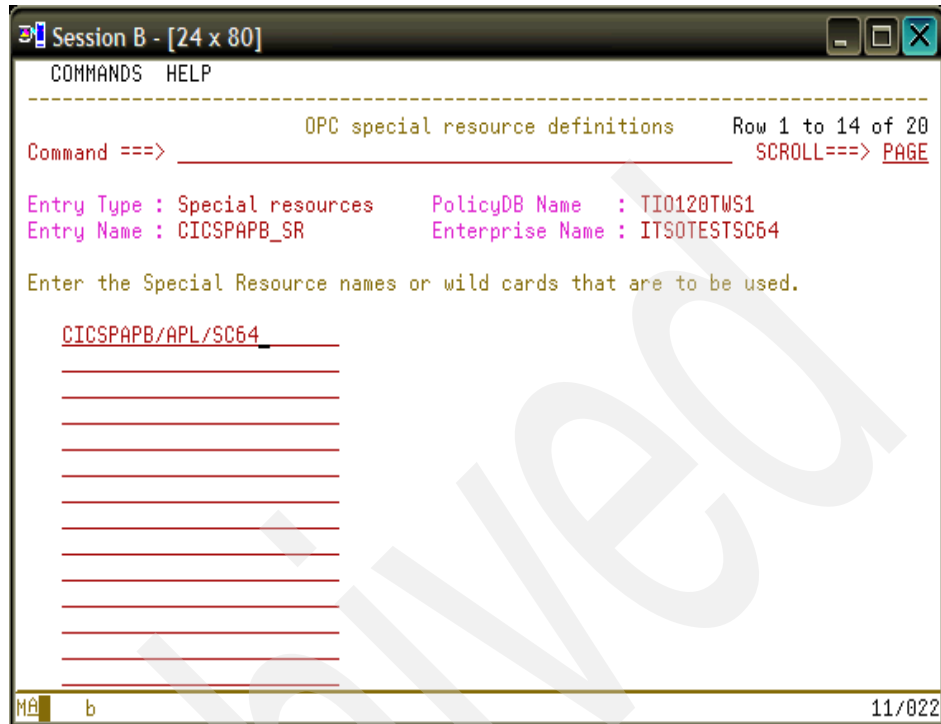

Figure 4-63 OPC special resource definitions for OSR entry
6. Place an s in the Action field for SPECIAL RESOURCES and press Enter. The OPC special resources definition panel that is shown in Figure 4-63 on page 170 displays.